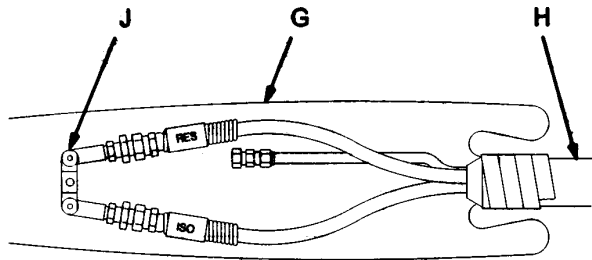

Figure 14
- a. Lay the abrasion cover (G) and assembled heated hose (H) end to end. Refer to Figure 14.
- b. With the gun disconnected from the gun manifold (J) and the air hose disconnected from the gun, pull a couple of inches of the cover (G) over the manifold and hoses and tape the cover to the hoses.
- c. Push the cover (G) onto the hoses. See Figure 14. The cover will double over itself and be turned inside out as it slides over the hoses.
- d. Secure the other end of the cover (G) with tape.